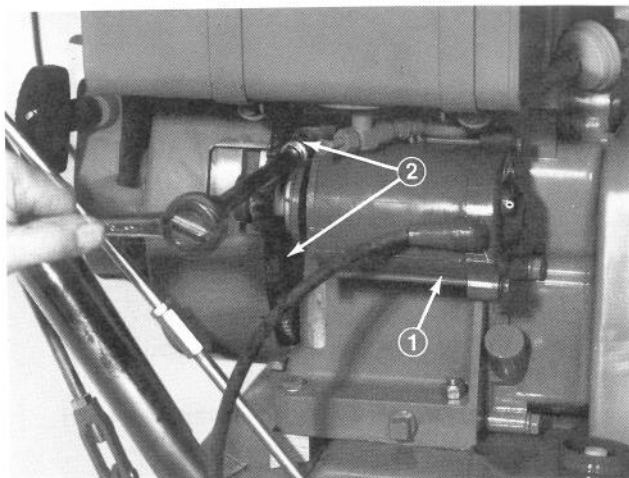

Figure 2
2. Install starter motor in place and secure with two capscrews (Fig. 2).